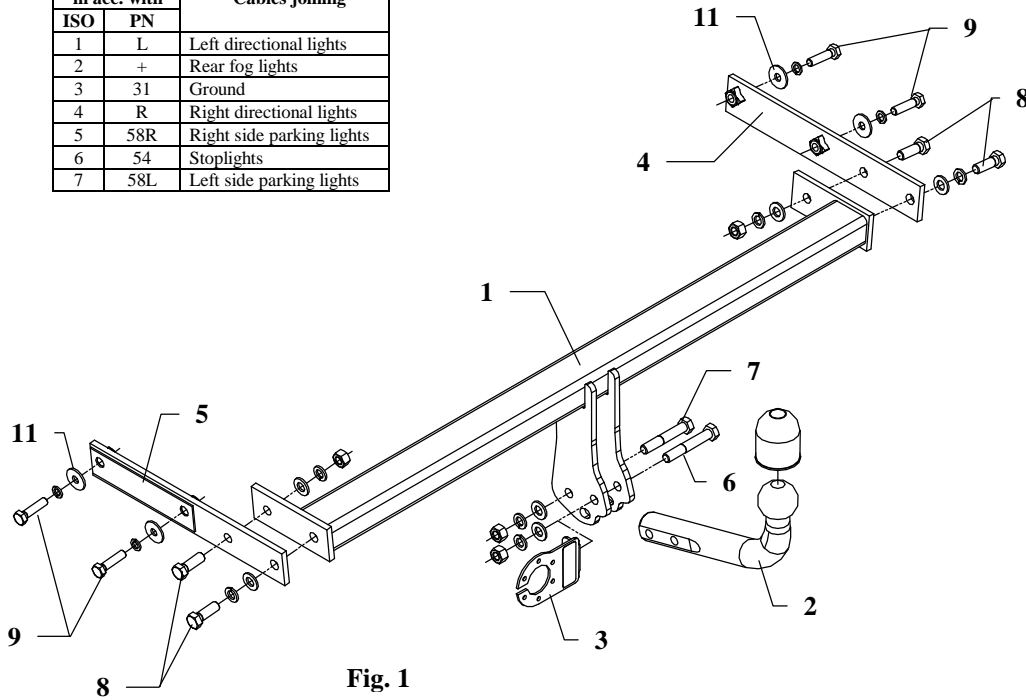

Fig. 1
2. Inside chassis members slip suitable side brackets (pos. 4 and 5) in this way, so holes of brackets agree with factory prepared holes in chassis members. Fix loosely using bolts M10x40mm (pos. 9) as shown on figure 1.
3. Between installed side brackets slip main bar of the towbar (pos. 1) and fix using bolts M10x35mm (pos. 8) as shown on figure 1.